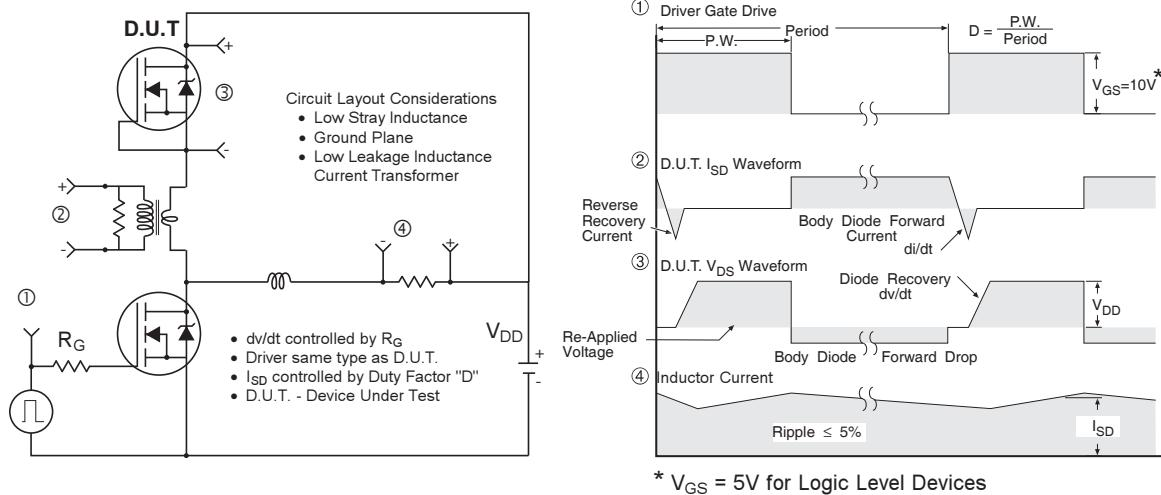

Fig 20. Peak Diode Recovery dv/dt Test Circuit for N-Channel HEXFET® Power MOSFETs
**Fig. 16.** Threshold Voltage vs. Temperature**Fig. 17 -** Typical Recovery Current vs. di_f/dt **Fig. 18 -** Typical Recovery Current vs. di_f/dt **Fig. 19 -** Typical Stored Charge vs. di_f/dt **Fig. 20 -** Typical Stored Charge vs. di_f/dt